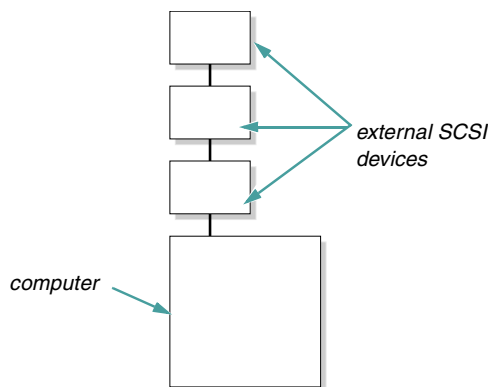

Figure 10-4. Daisy-Chaining External SCSI Devices
8. Attach the other end of the SCSI external access cable to the computer’s back panel. If you are attaching multiple external SCSI devices, daisy-chain the devices to each other using the cables shipped with each device (see Figure 10-4).